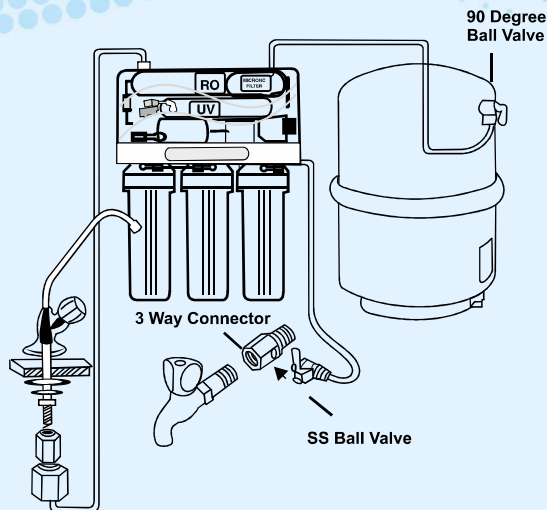

Figure 2
- Connect the 3-way connector to the raw water supply as shown in the figure 2. The threaded end of the 3-way connector is fitted in line with the raw water supply. The other end can be connected to a tap or can be plugged off if not required